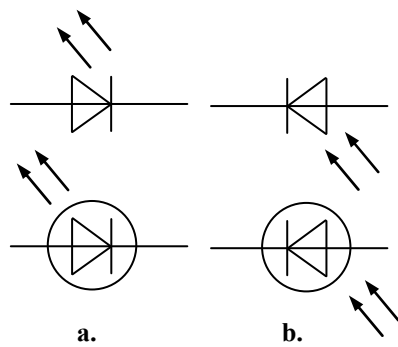

Fig. 1.16
**Optoelectronics.** Fig. 1.16,a displays a *light-emitting diode* (LED). This diode emits visible and invisible light rays when forward current through it exceeds the turn-on current. In the forward-biased LED, free electrons cross the junction and fall into holes. As these electrons fall from the higher to a lower energy level, they radiate energy. In rectifier diodes, this energy goes off in the form of heat. However, in a LED the energy is radiated as light. LEDs have replaced incandescent lamps in many applications because of their low voltage, long life, and fast on-off switching. LEDs are constructed of gallium arsenide or gallium arsenide phosphide. While their efficiency can be obtained when conducting as little as 2 mA of current, the usual design goal is in the vicinity of 10 mA. During conduction, a voltage drop on the diode is about 2 to 3 V that is twice more than the rectified diode.
The same principle is used in *photoelectric cells*. When light energy bombards a *pn* junction, it can dislodge valence electrons. The more light striking the junction, the larger is the reverse current in a diode. Among the photoelectric cells that use this phenomenon, the most popular optoelectronic device is a *photodiode*. A photodiode is the one that has been optimized for its sensitivity to light. In this diode, a window lets light pass through the package to the junction. The incoming light produces free electrons and holes. The stronger the light, the greater the number of minority carriers and the larger the reverse current. Fig. 1.16,b shows of reverse biasing of the photodiode, where light becomes brighter and the reverse current increases.